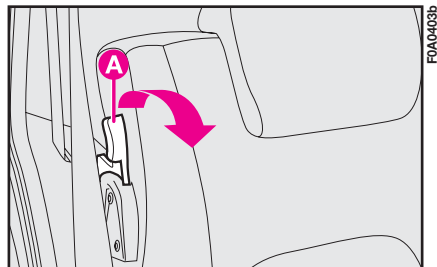

fig. 59b
- release lever **A**-fig. 59b and fold the seat forward onto the cushion;